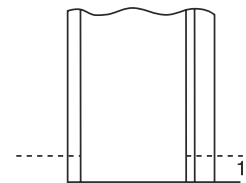

Figure 5
B. Panels can also be terminated with a hemming tool to provide a smoother appearance. Cut through male and female legs/ribs 1" up from panel end as shown in Figure 5.